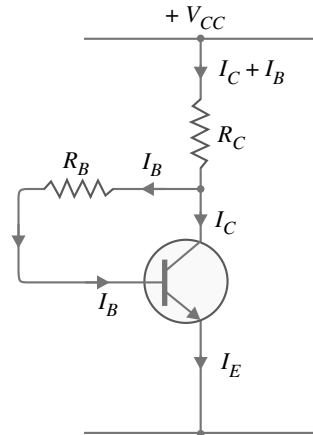

Fig. 7.21
In this method, one end of  $R_B$  is connected to the base and the other end to the collector as shown in Fig. 7.21. Here, the required zero signal base current is determined *not* by  $V_{CC}$  but by the collector-base voltage  $V_{CB}$ . It is clear that  $V_{CB}$  forward biases the base-emitter junction and hence base current  $I_B$  flows through  $R_B$ . This causes the zero signal collector current to flow in the circuit.
**Circuit analysis.** The required value of  $R_B$  needed to give the zero signal current  $I_C$  can be determined as follows. Referring to Fig. 7.21,
**Note.** It can be easily proved (See \*example 7.20) that  $Q$ -point values ( $I_C$  and  $V_{CE}$ ) for the circuit shown in Fig. 7.21 are given by ;
**Stability factor ( $S$ ).** Referring to the circuit shown in Fig. 7.21 above, we have,
\* Put  $R_E = 0$  for the expression of  $I_C$  in example 7.20. It is because in the present circuit (Fig. 7.21), there is no  $R_E$ .